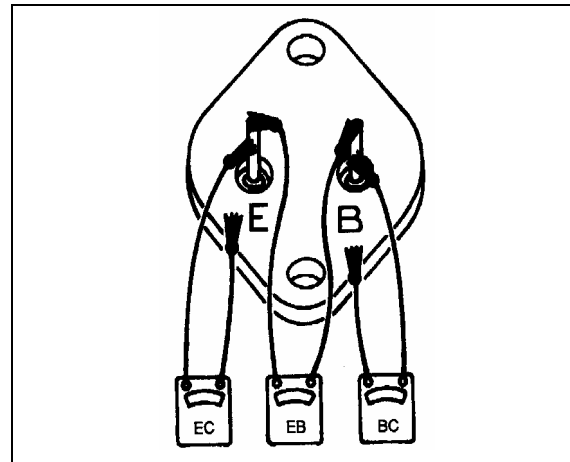

FIGURE 46: CHECKING TRANSISTOR TR1
- B) By removing any retaining screws involved and unsoldering the connections. When resoldering, limit solder time to a minimum as excessive heat may damage the printed circuit board and component parts. However good soldered connections are essential for satisfactory operation. A resin core 63% tin 37% lead solder with a 360°F (182°C) melting point is recommended along with a soldering iron rated at 50 watts or less. Use extreme care to avoid overheating. Before checking the printed circuit board, remove transistor TR1, which must be checked separately. Connect the ohmmeter as shown in figure 46, and then reverse the ohmmeter leads to obtain two readings on the same component. Use the middle scale on scale-type meters on which the 300 ohm value should be within, or nearly within, the middle third of scale.
Transistor TR1 = See figure 46. Use the low scale. Each of the three checks should read low and high. If not, replace TR1.